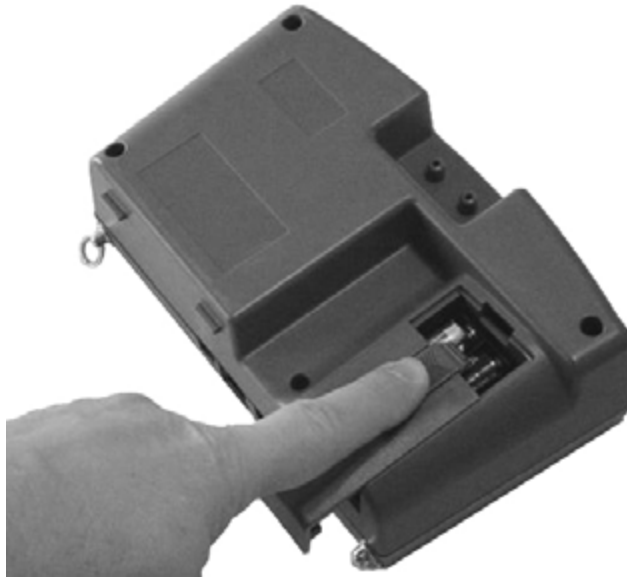

Figure 4: Battery Cover Removal
1. Turn the unit off and locate the battery cover on the back of the micromanometer (see Figure 4).